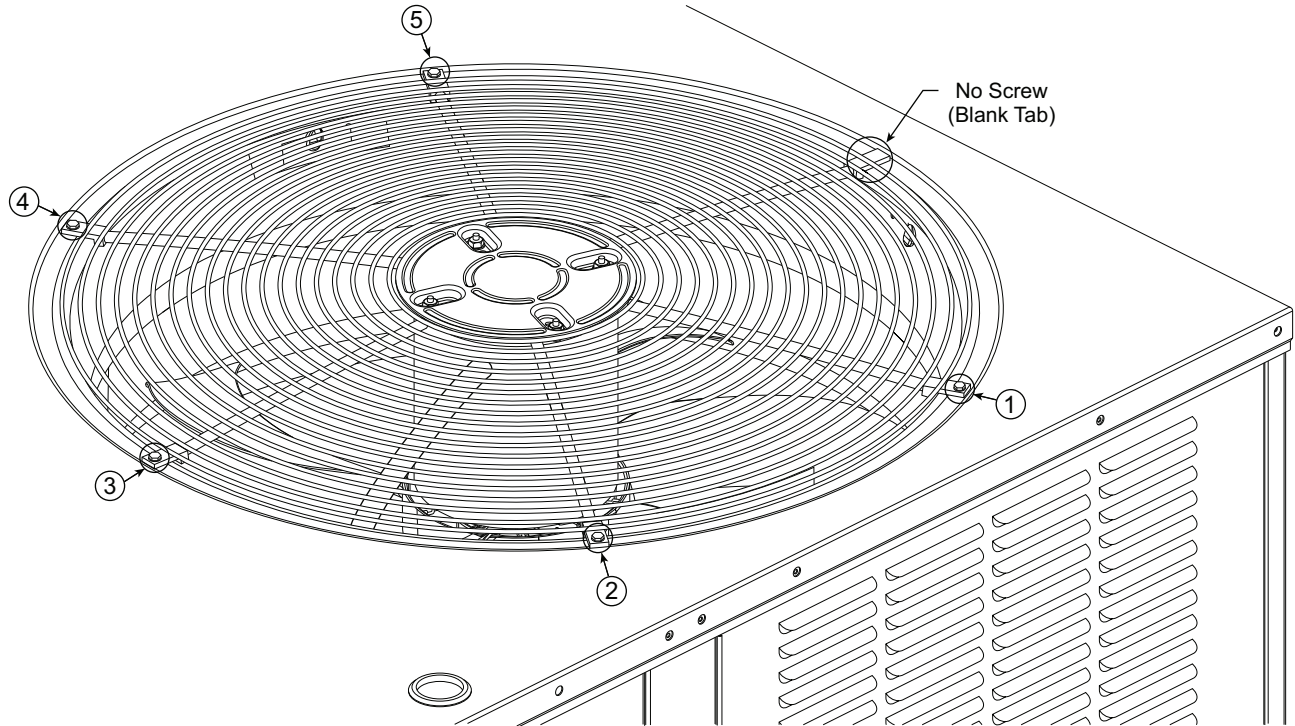

Fig. 35 — Condenser-Fan Assembly — Screw Pattern Sequence
6. Replace condenser-fan assembly. When replacing the condenser-fan assembly follow the screw pattern sequence shown in Fig. 35. The screws must be replaced in the sequence shown in the figure.